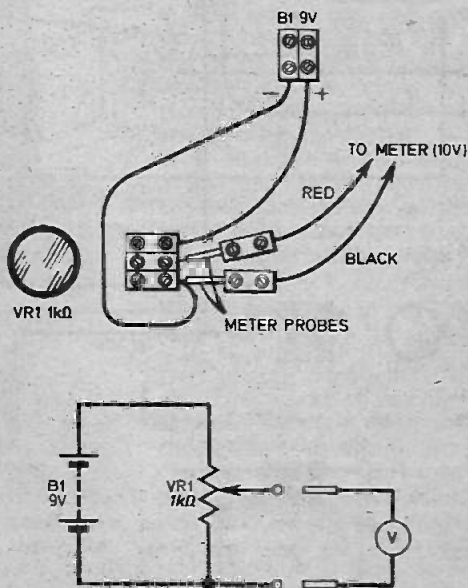

Fig. 3B.1. Shows the connections on the Circuit Deck for experiment 3B together with the theoretical circuit diagram.
1. Assemble the circuit shown in (Fig. 3B.1.) using the 1 kilohm potentiometer, the 9 volt battery and the